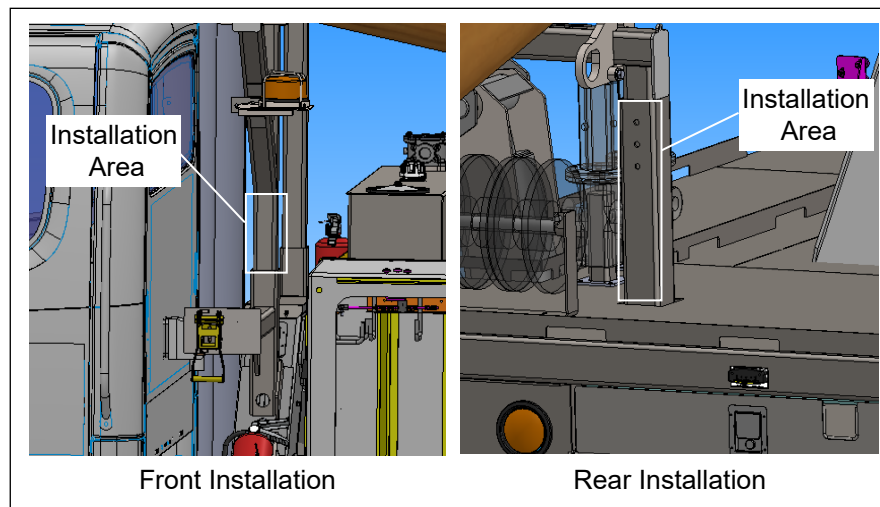

Figure 1 — Placard Installation
3. Locate the pole rack capacity placards at the front and rear of the assembly as shown in Figure 1. Some units may not have these placards installed. Use a plastic utility scraper to remove the old placards, if necessary.
4. Use a water-based cleanser to clean the installation areas and allow it to dry (refer to Figure 1).
5. Install the new capacity placards in the installation areas so they are visible to the operator (refer to Figure 1).